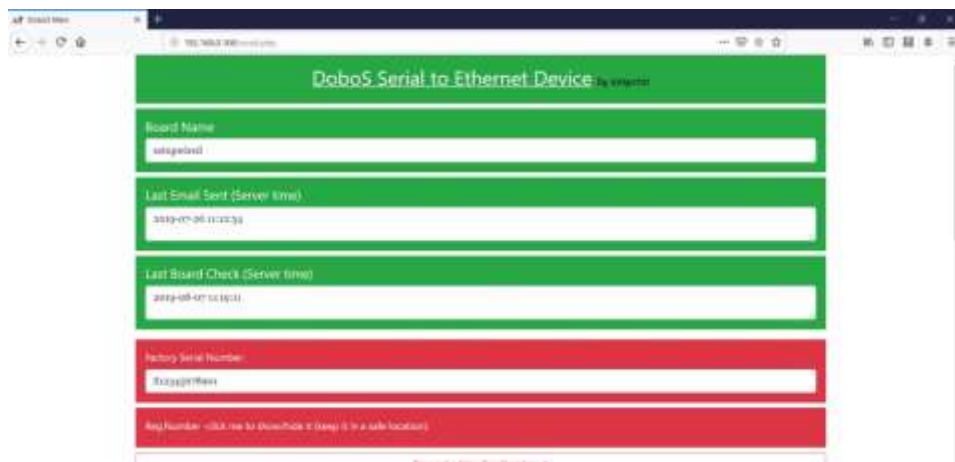
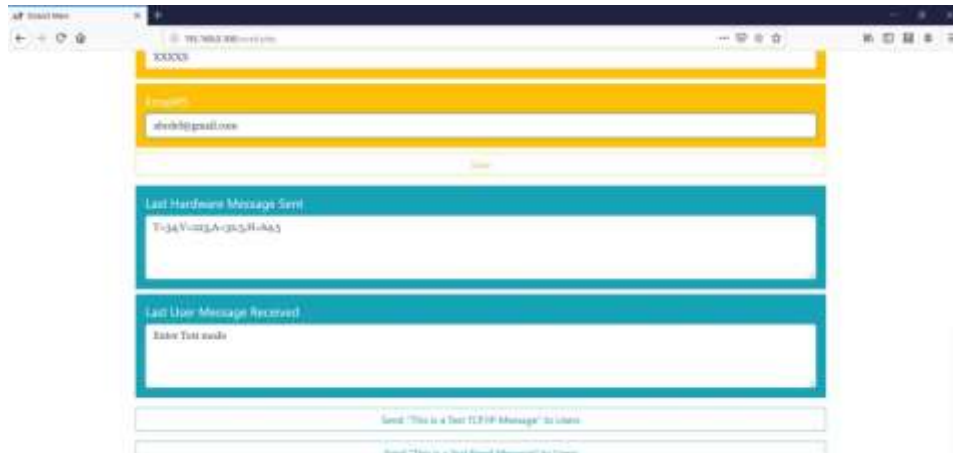

Fig 10.
Fig 11.
- The user should enter the Factory registration number if he or she has never changed it before and then press on the 'Log Me In' button where he is presented with eDoboS main page in Fig. 10 and by scrolling down Fig. 11.